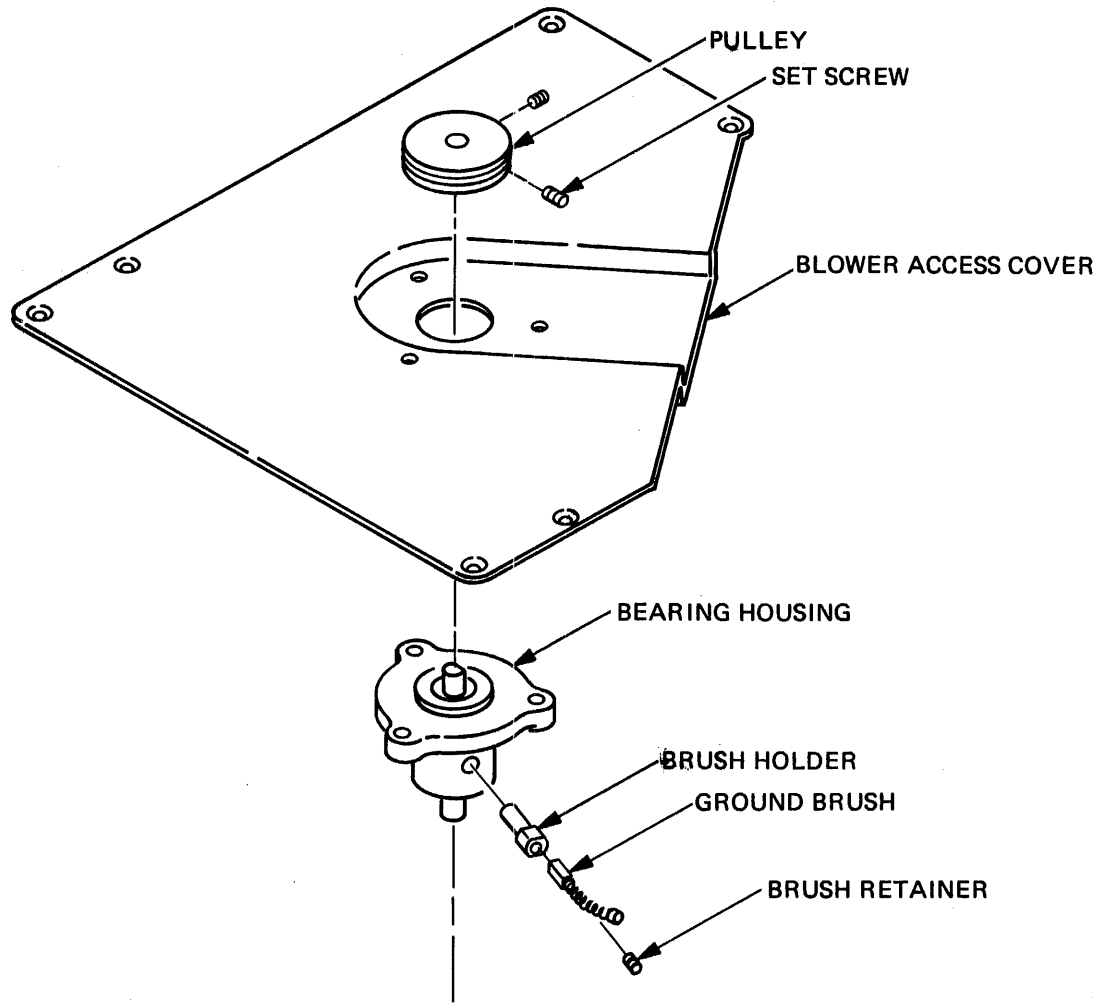

Figure 5-18. Blower Shaft Ground Brush — Mounting
- B. Remove the two 6-32 set screws in the rim of the blower pulley; then slide the pulley off its shaft. See Figure 5-18.
5.4.3.7 Blower Shaft Ground Brush. The blower shaft ground brush is mounted in the bearing housing of the blower. The brush is to be replaced if the resistance between the blower shaft and the casting exceeds 1.5 Ohms (with the shaft rotating). To replace the brush, remove the slotted screw at the back of the brush holder, remove the brush, and substitute a new brush. Figure 5-18 shows the configuration of the brush assembly mounting.